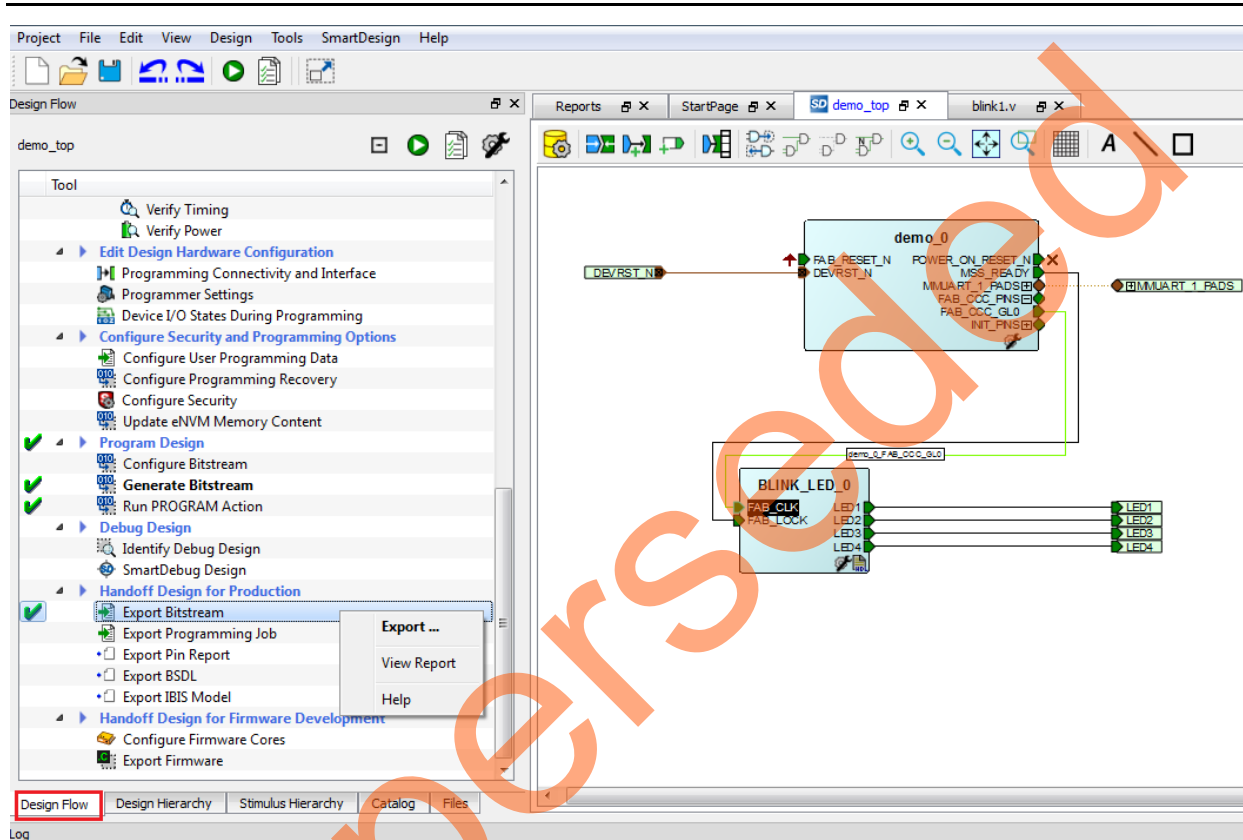
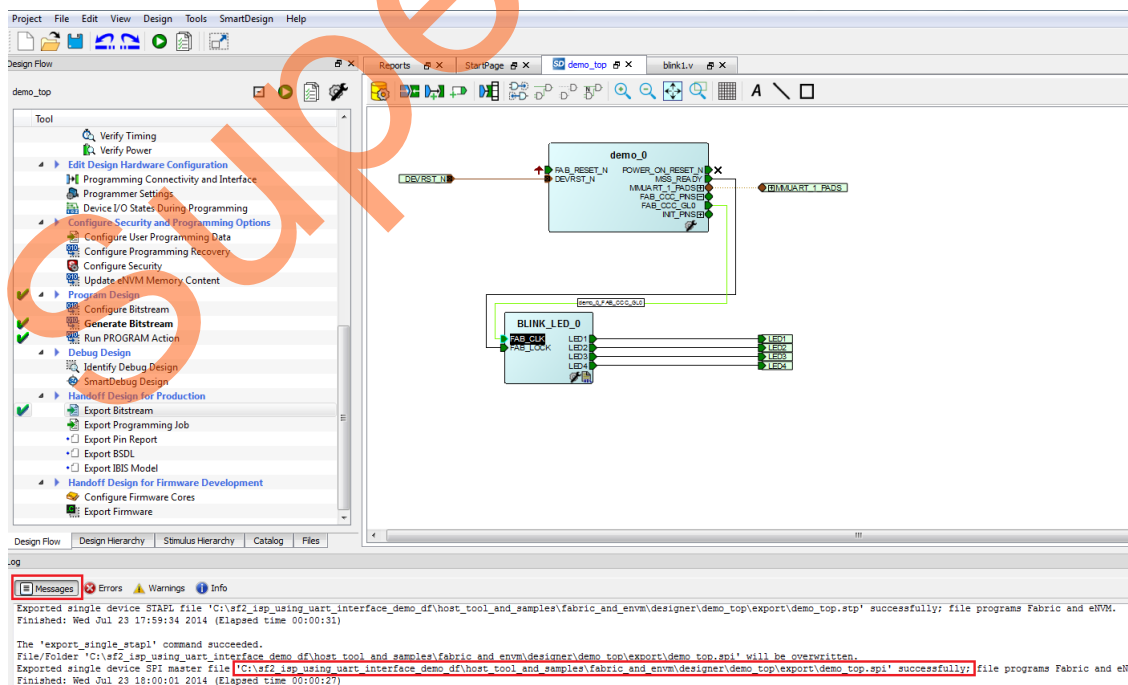

Figure 19 • Configuring Export Bitstream
Figure 21 • .SPI File Location
- Double-click **Export Bitstream** under **Handoff Design for Production** in the **Design Flow** tab to generate the .spi file (Figure 19 on page 29). Figure 21 shows the .spi file location in **Messages** tab.